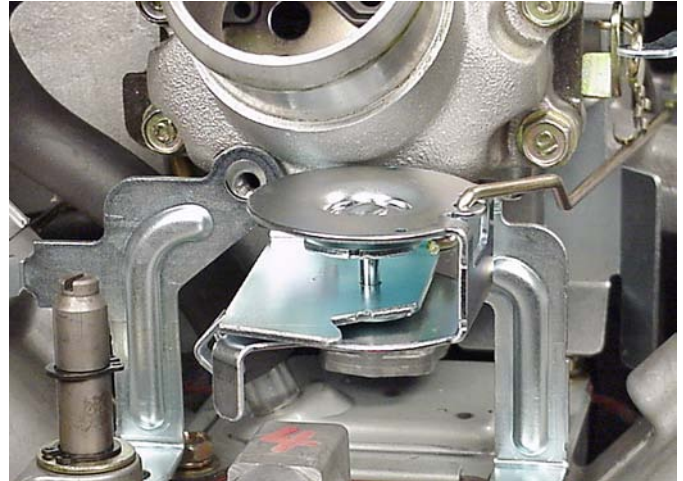

Fig. 166
5. Assemble governor link to governor control bracket and install governor control bracket, Fig. 166. Torque screws to 70 in. lbs. (8.0 Nm).